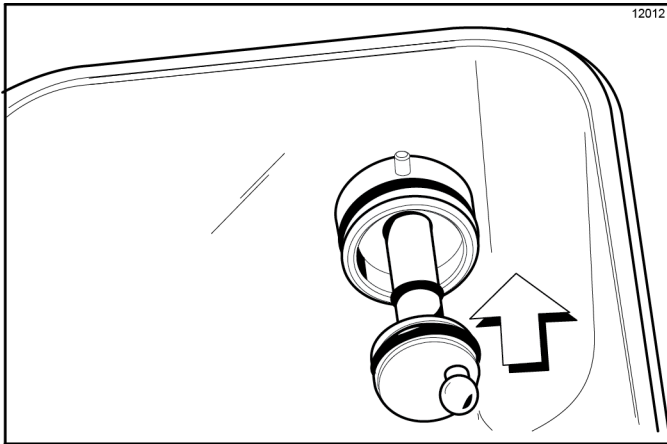

Figure 6-41
- 14. Install the hex end of the driveshaft into the drive hub at the rear wall of the mix hopper. (See Figure 6-41.)